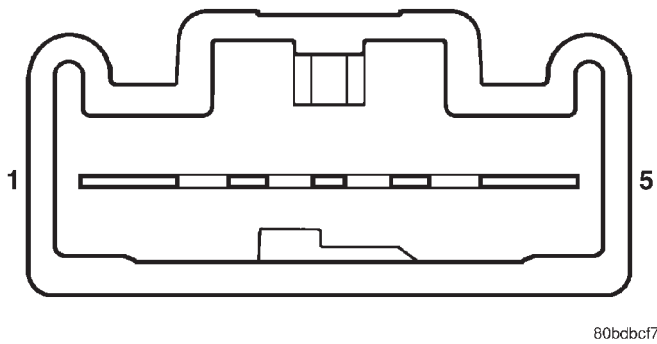

Fig. 4 Rear Window Defogger Switch Connector
(1) First remove switch. Refer to Group 8E-Instrument Panel and Systems, Auxiliary Switch Bezel Removal and Installation.
(2) With switch removed from vehicle, use a jumper wire and connect a 12 volt supply to Pin 1 and 2. Using a third jumper wire, ground Pin 3. Refer to (Fig. 4) and the Rear Window Defogger Switch and Harness Connector Pin Call-Outs table.
(3) Follow the same procedures used for IN-VEHICLE TESTING, except for step Step 2.